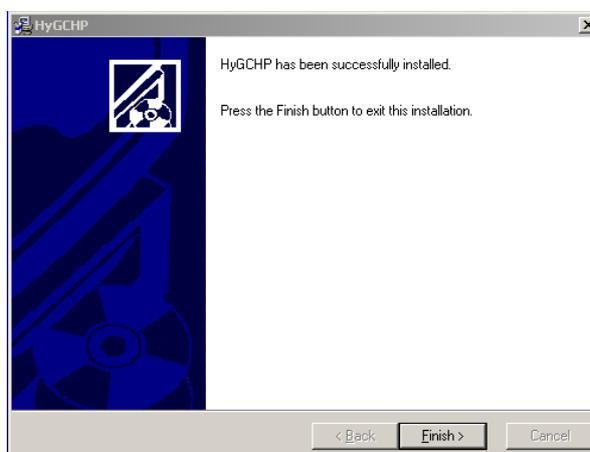

**Figure 3. Start Installation Screen**
- 4.) Click **Next** to reach the *Start Installation* screen (Figure 3).